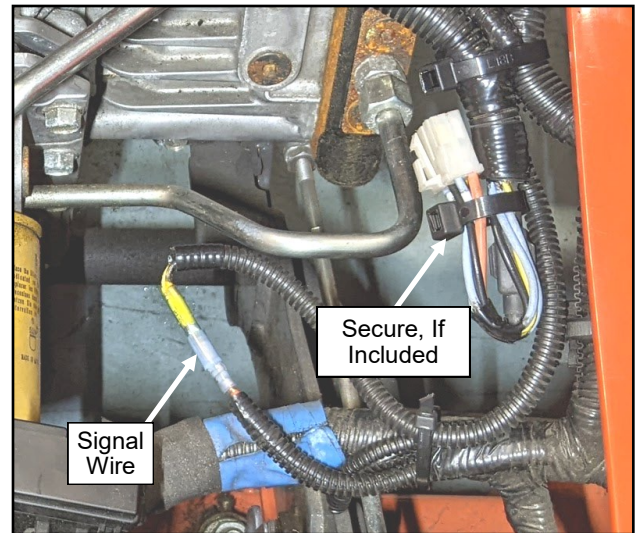

Fig. 7.16 (Locate OEM Signal Wire)
7.16 See fig. 7.16. Cut the blue tape on the OEM vehicle wire harness under the seat to expose a male and female bullet terminal. Connect the male bullet terminal at the end of the yellow wire on the A/C wire harness to the female bullet terminal on the OEM harness.